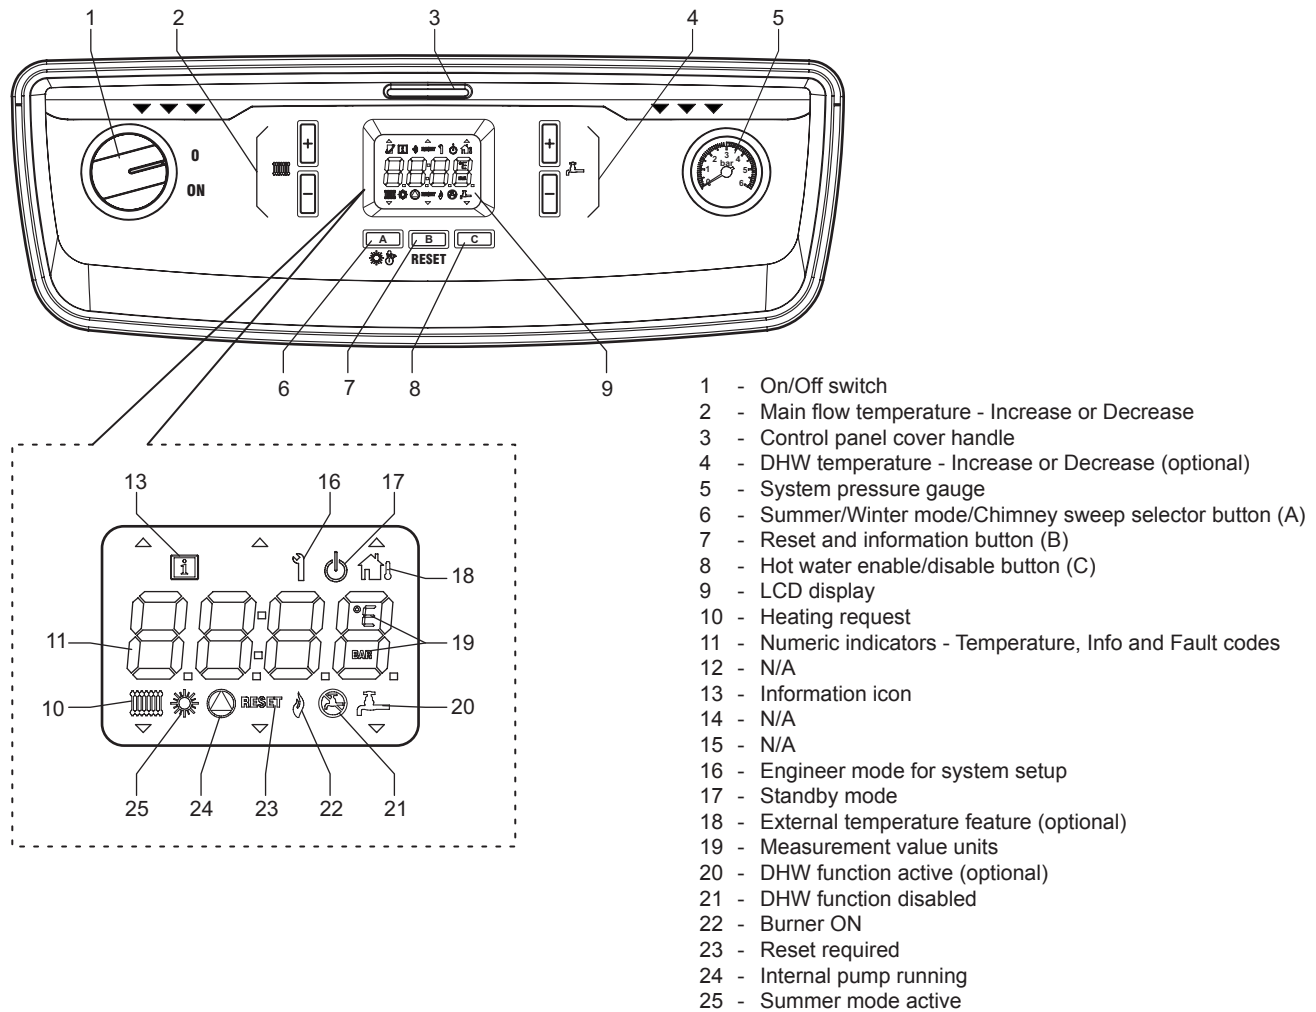

Fig. 5.2
5.3 BOILER CONTROLS - Fig. 5.2
Raise the control panel cover using the handle '3' in Fig. 5.2.
The boiler display (see Fig. 5.2), is composed of a 4-character display and 7 buttons. By using these buttons it is possible to adjust the boiler as it would be by using traditional selector switches and knobs.
The function of each button is listed in Fig. 5.2.
5.5 INITIAL LIGHTING - Refer to Fig. 5.2